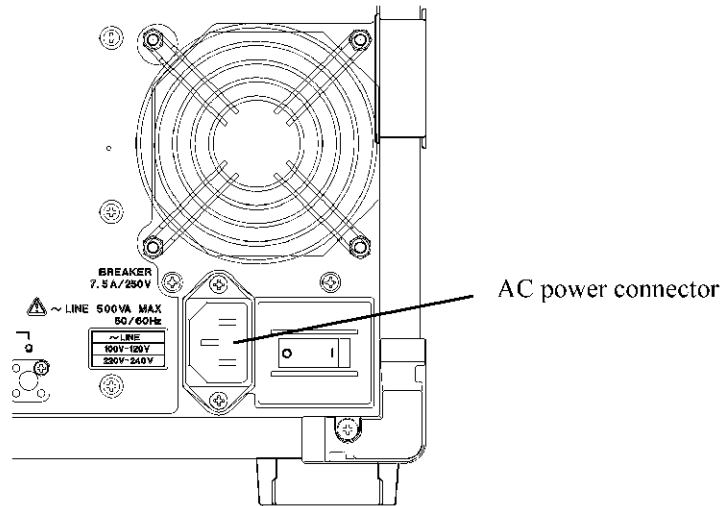

Figure 3-7 Connecting the Power Cable
2. Plug one end of the power cable included with this instrument into the AC power connector on this instrument rear panel and the other into a three-pole power outlet having a protecting grounding terminal (see Figure 3-7).